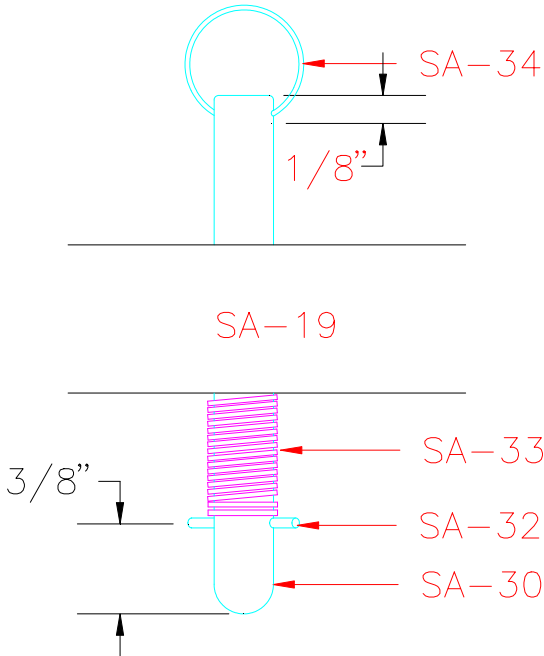

Figure 22.2.2
- 3) Assemble the seat locking pin into the seat base with SA-30, SA-32, SA-33 and SA-34 as in figure 22.2.2.